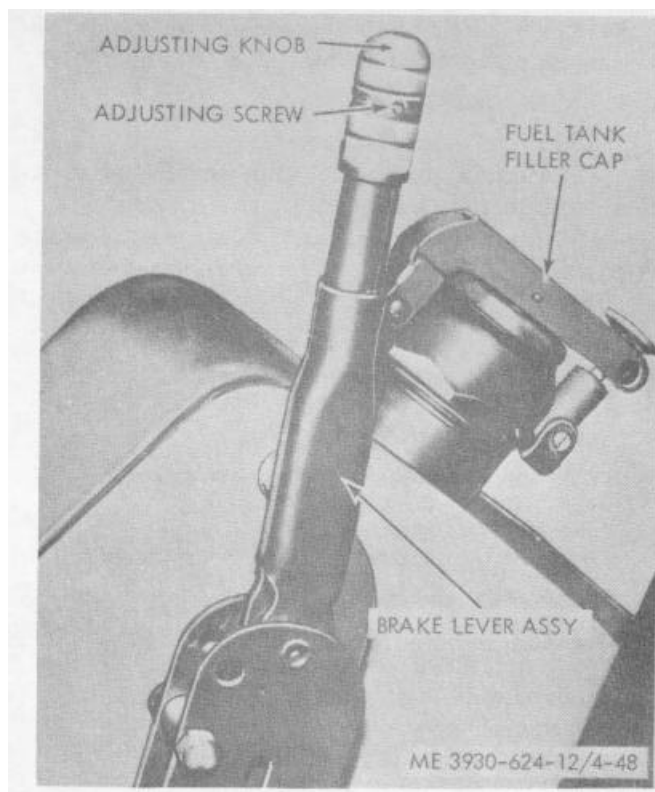

Figure 4-48. Hand brake adjustment.
- (1) Set the hand brake lever in the fully released position.
- (2) Remove the setscrew that locks the adjusting knob in position as illustrated in figure 4-48.